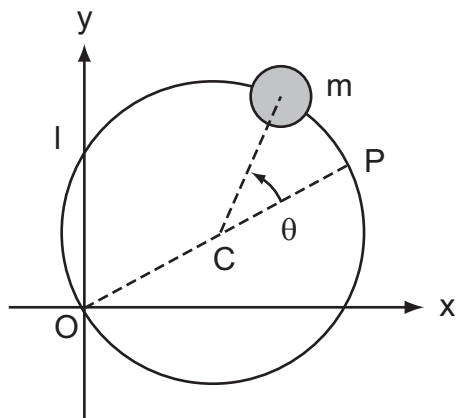

Figure 1: Bead moving along hoop
1. A bead of mass m is sliding along a thin, circular hoop of radius l , as illustrated in Figure 1. The hoop rotates with a constant angular velocity ω in a horizontal plane around point O on its rim. Let C be the center of the circular hoop and P be the point on the hoop rim diametrically opposite to point O . Let θ be the angle between CP and a line connecting point C and the bead.